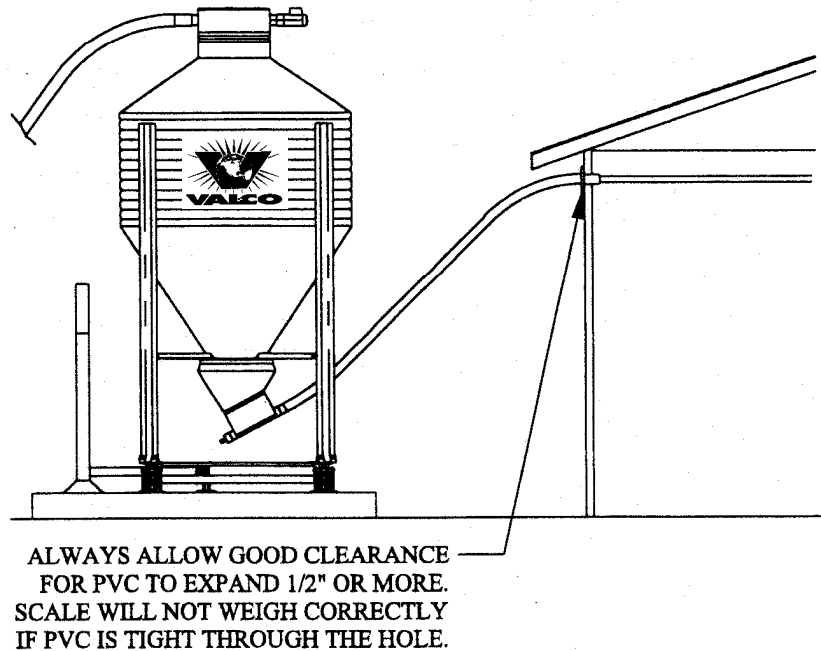

FIG. 1
- ☐ 1) After the scale and augers are installed, make a final inspection. Make sure the augers have 1/2" clearance going through the wall of the house. See Fig. 1.